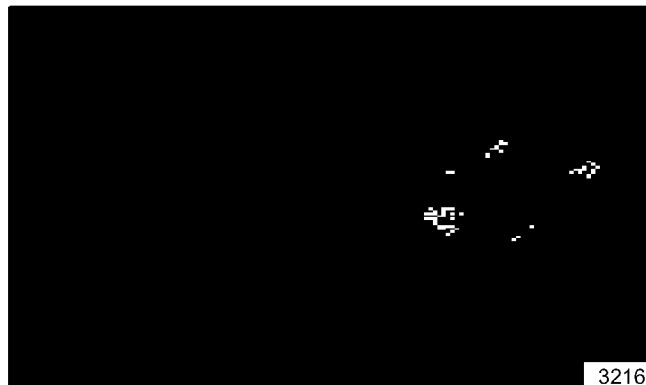

Figure 32. Transmission Case Apart
4. Remove the the remaining hardware. Take note of which side is the input side and which is the output side so that they can be reassembled correctly. Using a soft hammer, tap case on the tabs to break the seal, and pull halves apart (see figure 32).